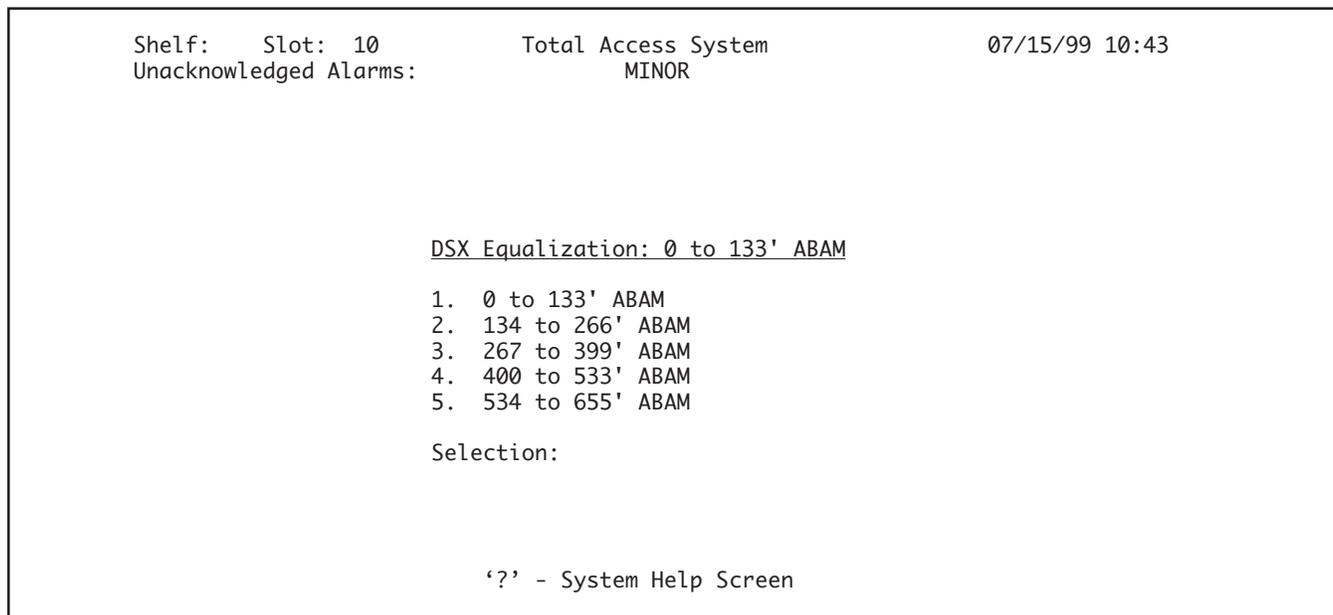

Figure 11. DSX Equalization Screen
1. From the Provisioning of All Ports screen, type “1” and press Enter to select DSX Equalization. The DSX Equalization Screen (**Figure 11**) will appear.